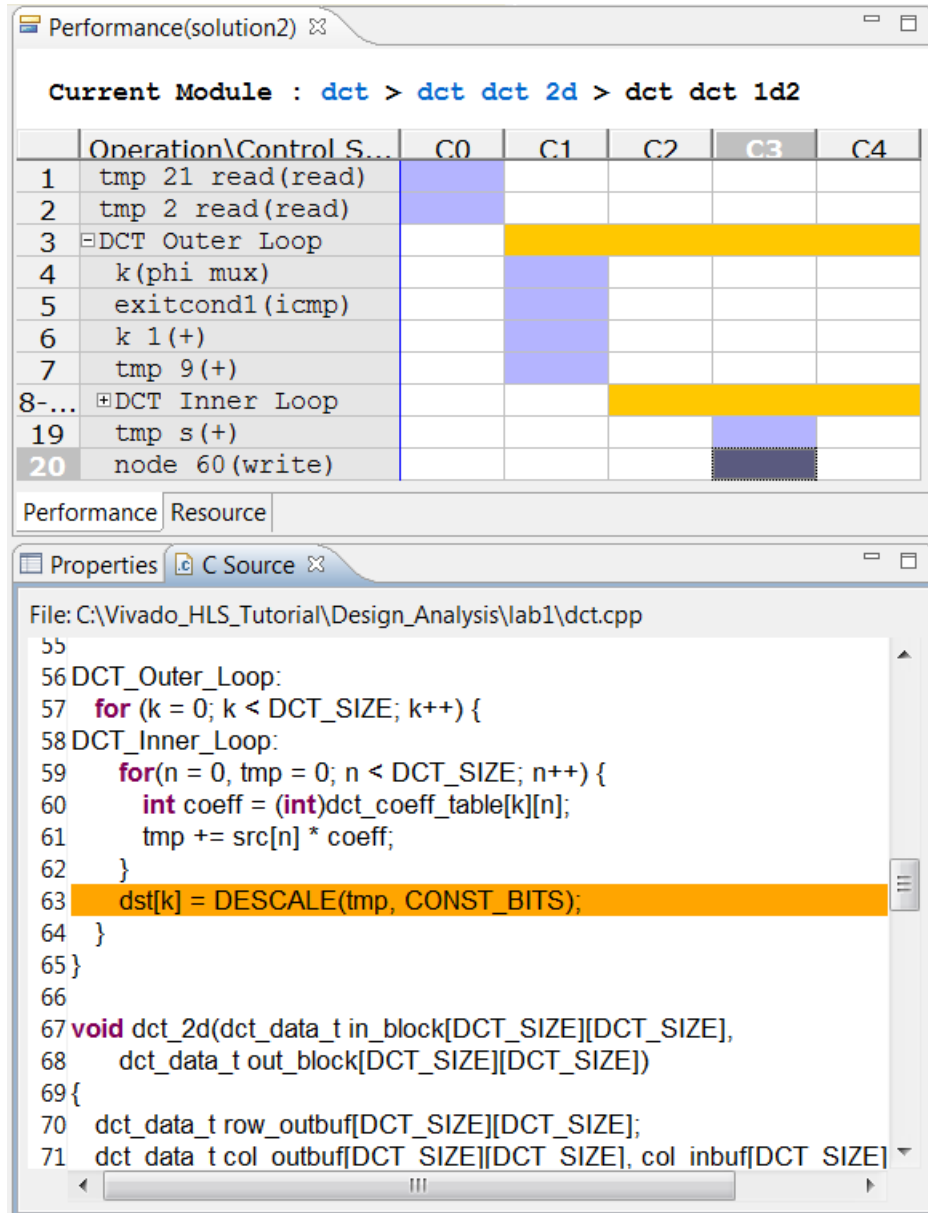

Figure 6-19: DCT Solution2 dct_1d Performance View
- In the Performance view, click loops `DCT_Outer_Loop` and `DCT_Inner_Loop` to view the loop hierarchy (Figure 6-19).
Figure 6-19 shows that this loop was not flattened because additional operations outside of DCT_Inner_Loop, at the level of DCT_Outer_Loop, prevented loop flattening. One of the operations that prevented loop flattening is highlighted in Figure 6-19, below.